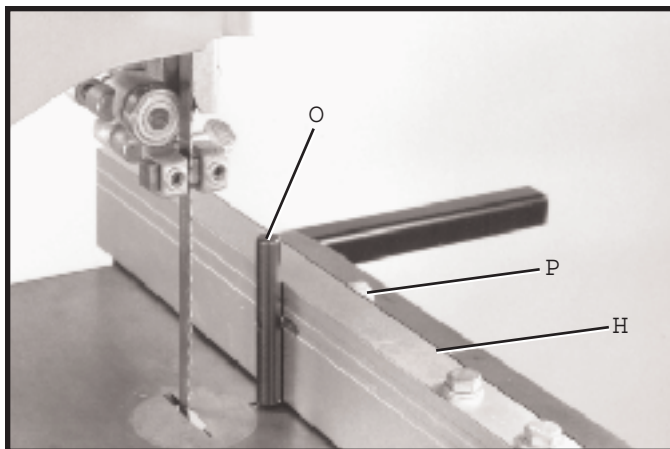

Fig. 48
3. Attach guide post (O) Fig. 48, to either side of rip fence assembly (H) with hand knob assembly (P). Position the guide post (O) on the fence assembly so it is centered with the front edge of the blade. This will provide better control while performing intricate cuts.